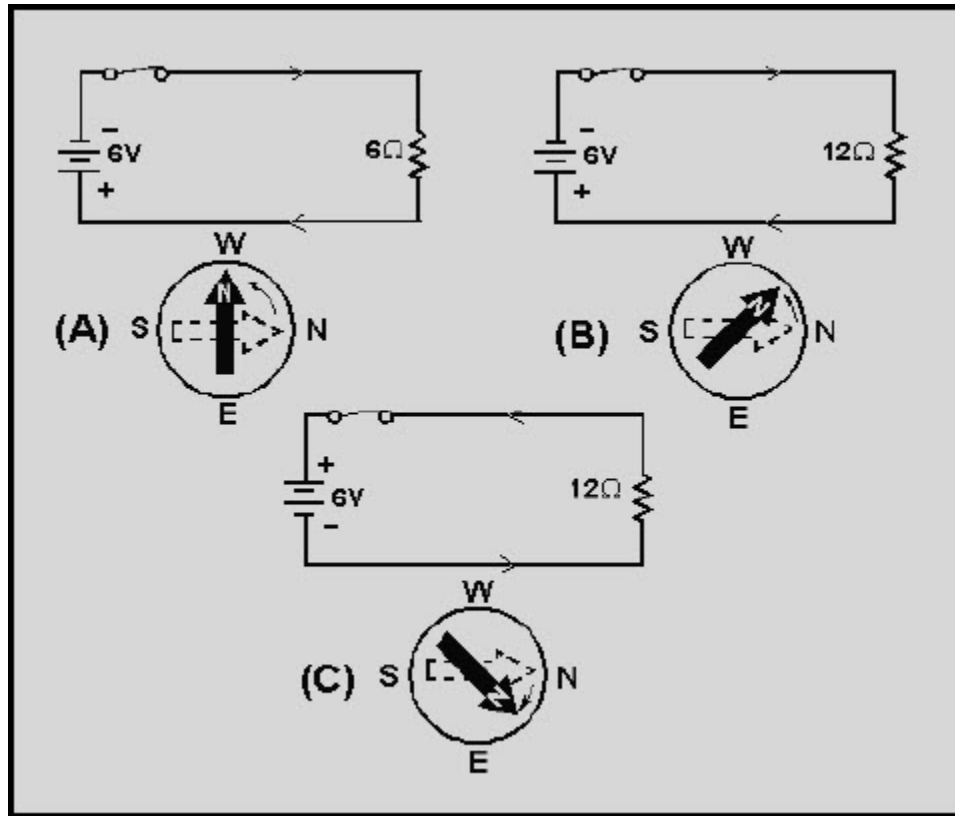

Figure 1-2 Compass and conductor with direct current
You know that an electrical conductor in which current flows has a magnetic field generated around it. If a compass is placed close to the conductor, the compass will react to that magnetic field (fig. 1-2).
If the battery is disconnected, the north end of the compass needle will point to magnetic north, as illustrated in figure 1-2(A) by the broken-line compass needle pointing to the right. When the battery is connected, current flows through the circuit and the compass needle aligns itself with the magnetic field of the conductor, as indicated by the solid compass needle. The strength of the magnetic field created around the conductor is dependent upon the amount of current.
In figure 1-2(A), the resistance in the circuit is 6 ohms. With the 6-volt battery shown, current in the circuit is 1 ampere. In figure 1-2(B), the resistance has been changed to 12 ohms. With the 6-volt battery shown, current in the circuit is 1/2 or .5 ampere. The magnetic field around the conductor in figure 1-2(B) is weaker than the magnetic field around the conductor in figure 1-2(A). The compass needle in figure 1-2(B) does not move as far from magnetic north.
In figure 1-2(C), the battery connections are reversed and the compass needle now moves in the opposite direction.